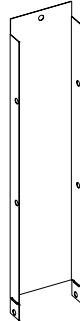

Figure 22
1. Locate the three steel standoff brackets inside the hardware box. See Figure 22.